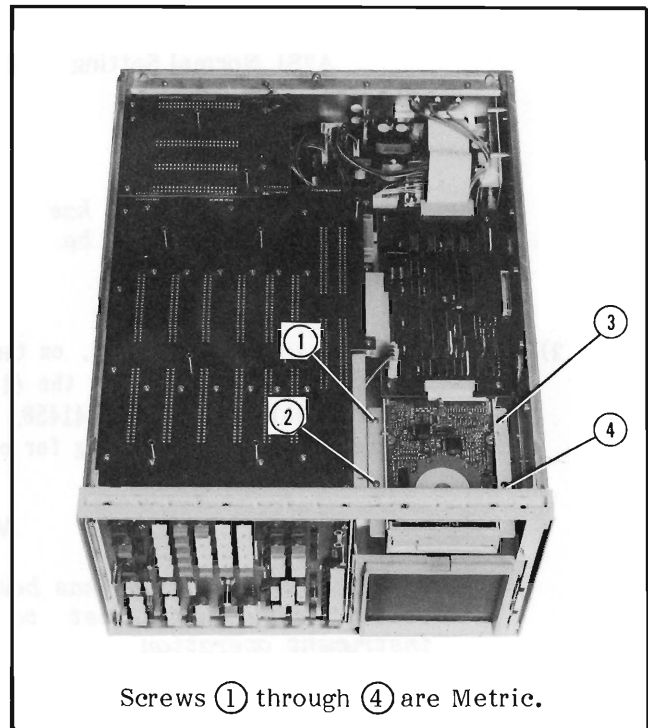

Figure 8-11. FDD and A9 Board Removal.
- (1) Remove the bottom cover.
- (2) Remove screws ① through ④ shown in Figure 8-11.